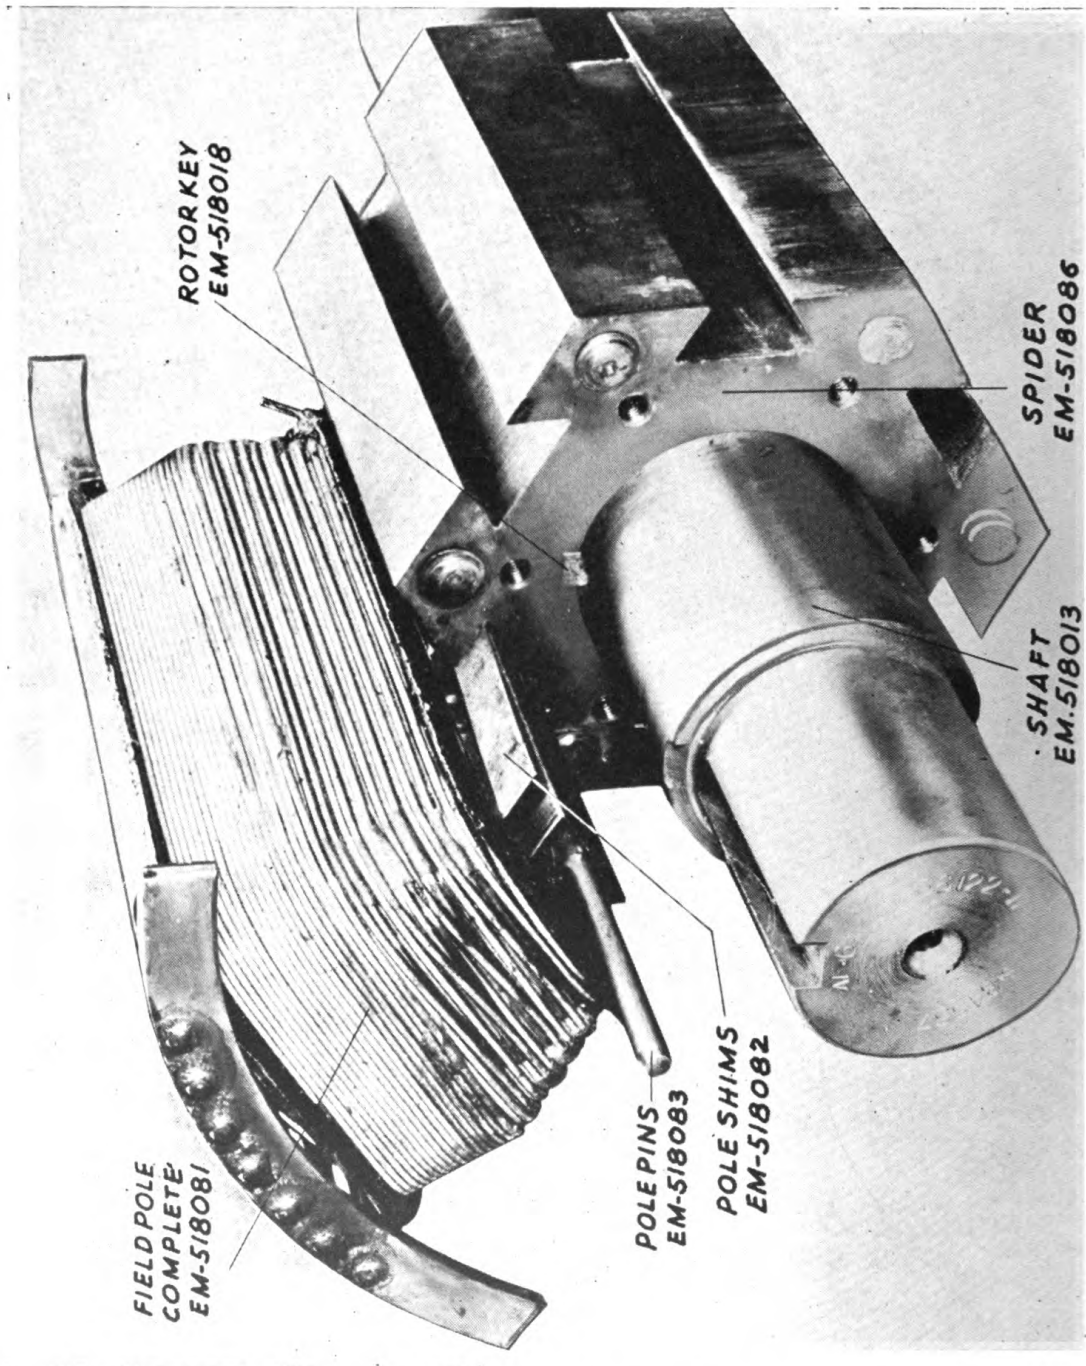

FIG. 11—Generator Shaft, Spider and Field Pole—Assembly Procedure
- Figure 11 Generator shaft, spider & field pole—assembly procedure.